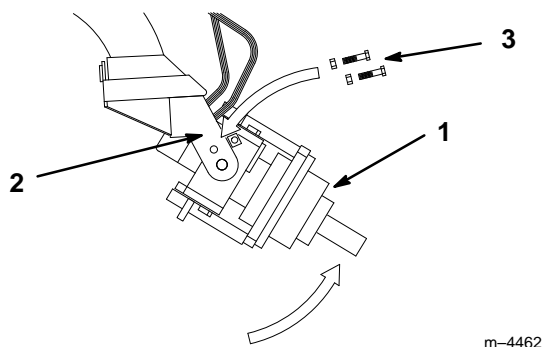

Figure 5
3. With the drive head in a vertical position, slide two 5/8"-11 x 3-1/2" bolts into the notches and holes in the front and back cradle arms and drive head (Fig. 5).
5. Manually rotate the auger drive head up and slide two 5/8"-11 x 3-1/2" bolts through the holes in the left and right cradle arms (Fig. 5).